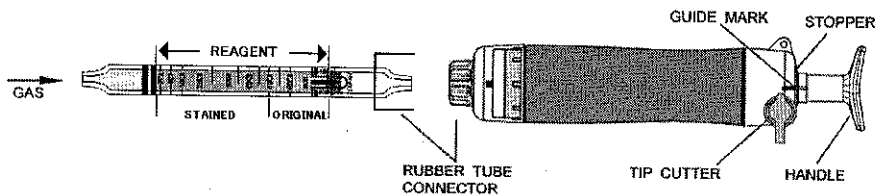

Fig.1
- ② Insert the detector tube into the aspirating pump securely as shown in Fig.1. (Arrow mark shall point to the pump.)
- ③ Align the guide marks on the shaft and stopper of the aspirating pump.
- ④ Pull the pump handle at a full stroke until it locks and wait for 1.5 minutes or until the completion of sampling is confirmed with the flow indicator of the pump (See descriptions about the flow indicator
- ⑤ On completion of sampling, read the scale at the maximum point of the stained layer.